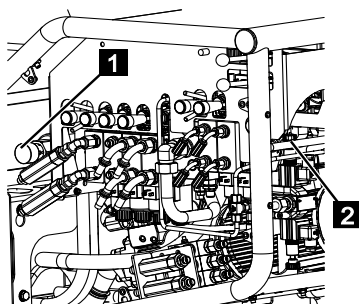

Fig. 197
4. Push in the [platform] valve (Fig.197/1) and lock it by turning it clockwise.
5. Screw the valve [LS] (Fig.197/2) in clockwise as far as it will go.